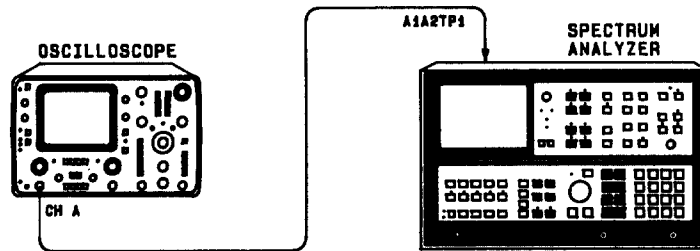

FIGURE 15. FINAL DISPLAY ADJUSTMENTS SETUP
4. Note graticule lines. If graticule lines appear to be out of focus, connect oscilloscope to A1A2TP1 as shown in Figure 15.